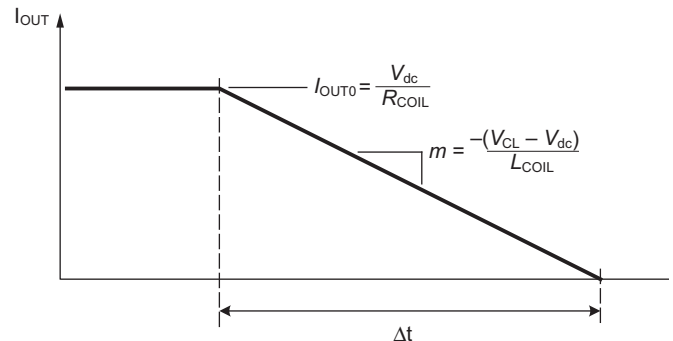

Figure 4. Output Voltage Clamping
(9) The output voltage is clamped to protect the driver. The active clamp works as follows. The voltage at the driver output is pushed high by the inductive current. Once the clamp voltage, V_{CL} , is reached, a Zener diode conducts current to the internal FET gate driver block. Therefore, the FET turns partially on, in order to limit any further increase in voltage at the output pin. The output is then held at this clamp voltage until the current decays to zero, as shown in figure 4.
(10) Energy loss in the chip, E , may be calculated as follows. Load coil resistance, R_{COIL} , is usually a significant value, but a worst case scenario takes $R_{COIL} = 0$ for simplicity. With active clamping at V_{CL} , the output current (with initial value I_{OUT0}) is driven low and the upper limit on energy loss in the driver is calculated as:
From figure 4: